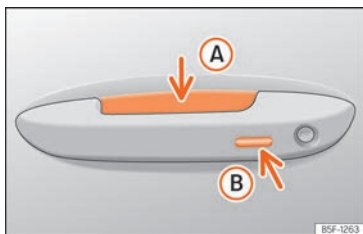

Fig. 88 Door handle: sensor surfaces
»» Fig. 88
- Grip one of the front door handles. When you do this, you touch the sensor surface »» Fig. 88 (A) (arrow) of the handle and the vehicle unlocks.
- Touch (once) the locking sensor surface »» Fig. 88 (B) (arrow) on one of the front door handles. The door that is used must be closed.
- Touch (once) the sensor surface »» Fig. 88 (B) (arrow) on one of the front door handles. The vehicle locks with the "Safe" security system »» page 107. The door that is used must be closed.
- Touch (twice) the sensor surface »» Fig. 88 (B) (arrow) of one of the front door handles to lock the vehicle without activating the "Safelock" security system »» page 107.
» **Fig. 88 B** within the following 5 seconds. Do not grasp the door handle; otherwise the vehicle will not unlock. Deactivation is also possible if the vehicle is locked through the driver's door lock.
To close all the electric windows and the sunroof using the **comfort function**, keep a finger for a few seconds on the locking sensor surface » **Fig. 88 B** (arrow) of the door handle until the windows and roof have closed.
The sensor surfaces on the door handles could engage if hit with a water jet or high pressure steam if there is a valid vehicle key in the proximity. If at least one of the electric windows is open and the sensor surface » **Fig. 88 B** (arrow) on one of the handles is activated continuously, all windows will close.